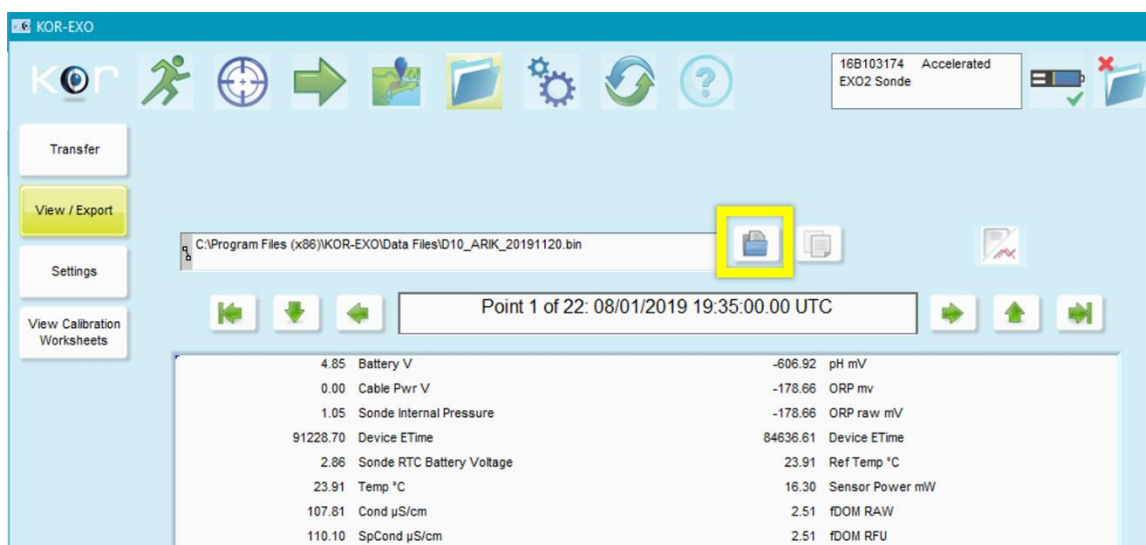

Figure 14. Select the Smaller Blue Folder Icon to Select the Log File to Download
3. Select the file you wish to download by clicking the smaller blue file folder icon (Figure 14).